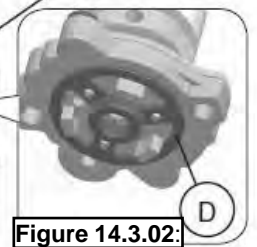

Figure 14.3.02:
3. Ensure the rubber gasket (D), which is prefitted as part of assembly (E), is properly positioned, see **Figure 14.3.02**, otherwise fit the gasket as shown **Figure 14.3.02**.